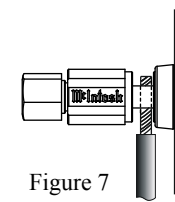

Figure 7
12. Connect the Loudspeaker hookup cables to the MC611 Negative Output Terminal and Positive Output Terminal identified as 2Ω (ohms), 4Ω (ohms) or 8Ω (ohms) connection to match the impedance of the Loudspeaker, being careful to observe the correct polarities. Insert the spade lug connector or prepared section of the cable end into the terminal side access hole, and tighten the terminal cap until the cable is firmly clamped into the terminals so the lugs or wire cannot slip out. Refer to figures 7 and 8.